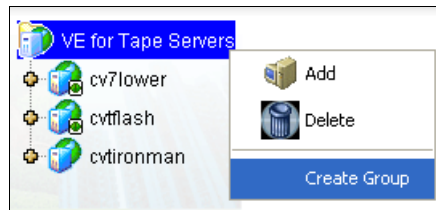

Figure 12-23 Adding group
1. Use the VE for Tape Console by right-clicking **<your TS7530 server>** and then selecting **Create Group**, as shown in Figure 12-23.